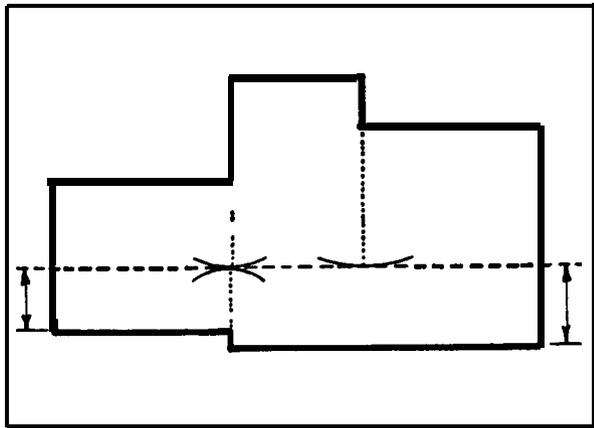

Fig. 4.20
• **Reference Strings.** In complex site or room plans, trilateration should be supplemented with a reference string and swing ties, especially where the measured area is slender (see Fig. 4.20). Be sure to measure and annotate the locations of the string ends on your notes. In cases of conflicts between the reference string and trilaterations, the reference string data is probably more reliable.